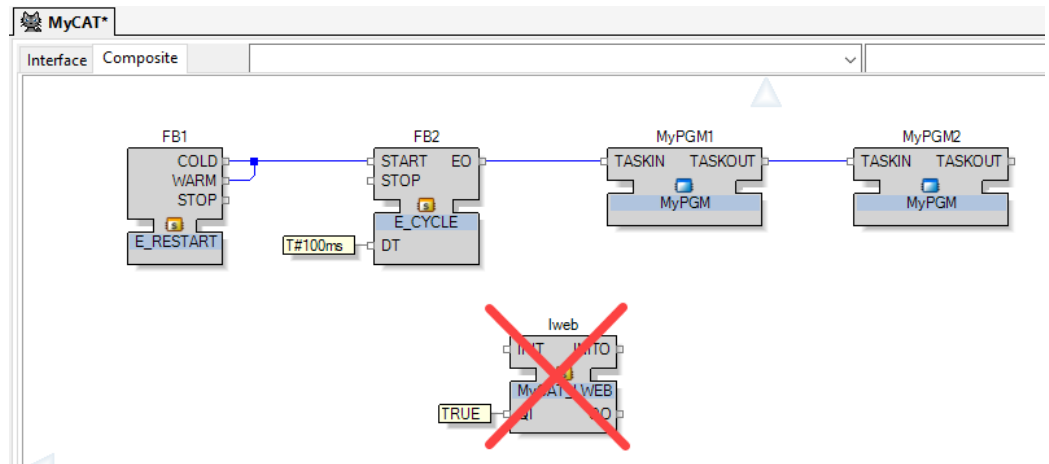

Figure 58: Embed the 61131 program in a 61499 CAT.
13. Connect the COLD and WARM Restart outputs to the START input by drag-and-drop between the function blocks as shown in Figure 58.